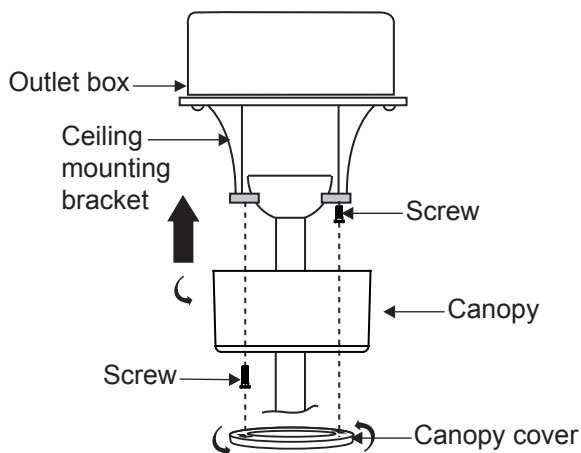

Fig. 16
**Step 2.** Slide the canopy up to the mounting bracket and place one of the key hole slots over the mounting screw on the mounting bracket. Rotate the canopy until the screw head locks in place at the narrow section of the key hole. (Fig. 16)
**NOTE:** Adjust the canopy screws as necessary until the canopy and canopy cover are snug. (Fig. 16)